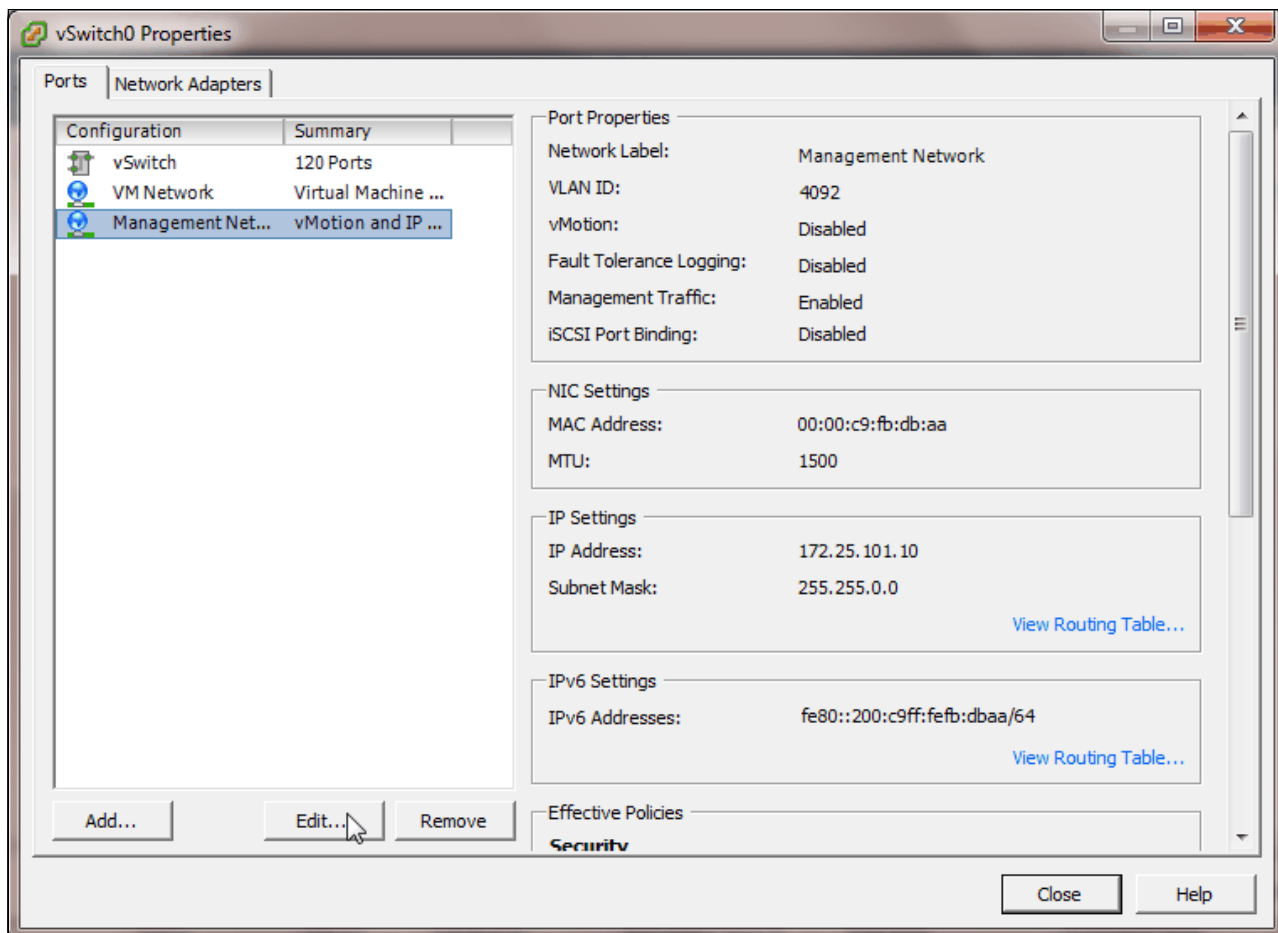

Figure 5-19 Modifying management network properties for vSwitch0
7. Go back into editing vSwitch0 by clicking **Properties...** once more. We can set the Management IP addresses for the hypervisor for both IPv4 and IPv6. Click **Management Network** and then **Edit...**, as shown in Figure 5-19.